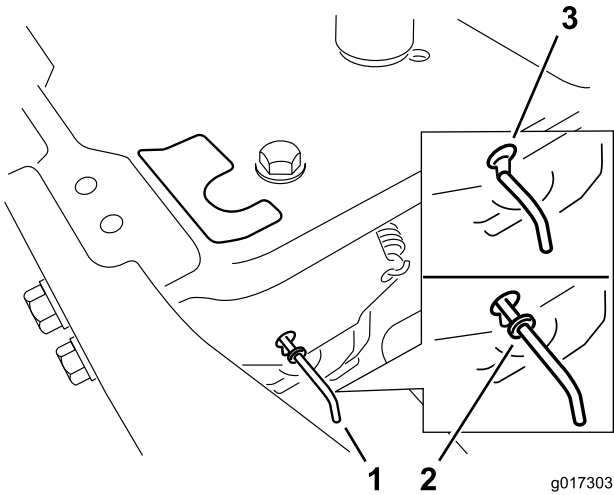

Figure 24
4. Move the bypass levers forward through the key hole and down to lock them in place (Figure 24).
Move the bypass levers rearward through the key hole and down to lock them in place as shown in Figure 24.